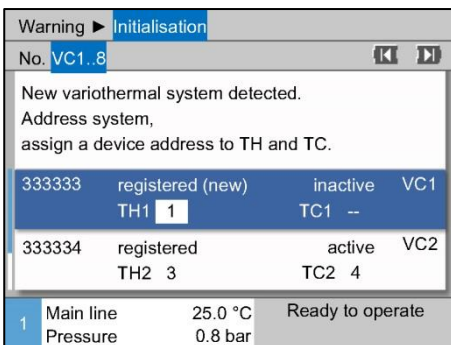

Fig. 21: Assign TH address
3. Jump to the TH address with the key and assign the registered address. (→ Fig. 21 Ex. assign address 1 to TH1)